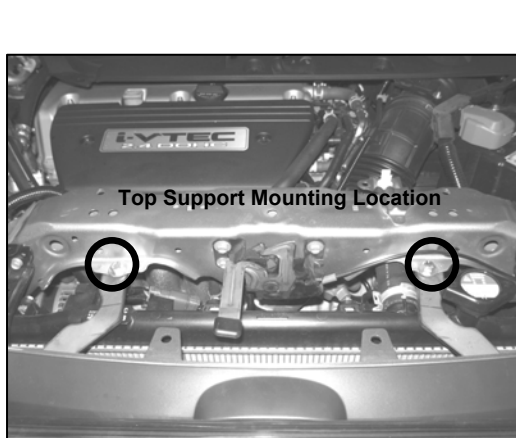

Figure 3
- Install the inner side on the Top Bracket to the existing hole on the radiator support with the included (1) 8-1.25mm x 25mm Hex Head Bolt, (1) 8mm Nylock Nut, and (2) 8mm Flat Washers (Figure 3 & 4). Do not tighten hardware at this time.